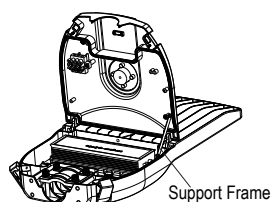
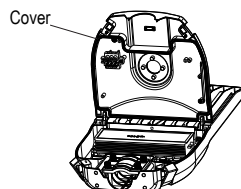

Figure 11
Figure 12
Step 1: Open the buckles to remove the cover of the driver box (Figure 11, Figure 12).